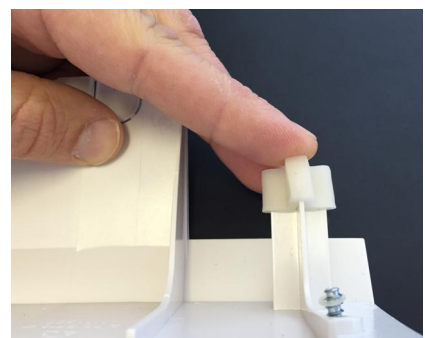

Fig: 4
3. On the inside of the removable cover ensure the rubber stop is fitted (fig 4). Spare rubber stops are available from Marlec on request. The iBoost+ cover should be securely fixed to the main unit making sure the screws are tight.